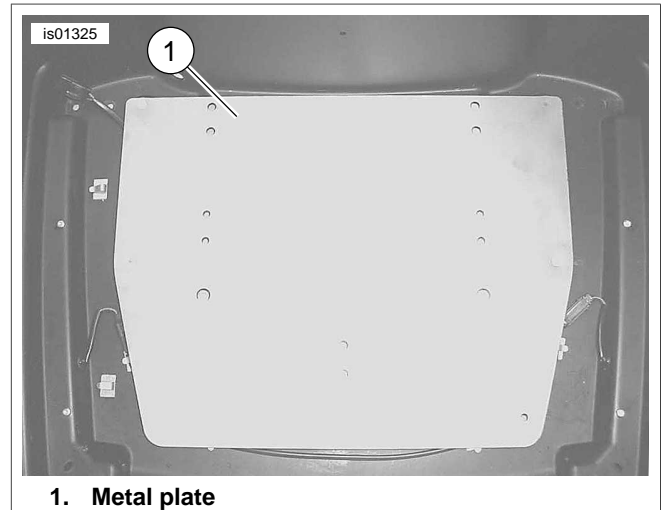

Figure 1. Metal Plate
4. See Figure 1. Remove metal plate from bottom of Tour-Pak by removing six flange nuts underneath Tour-Pak. Retain plate and nuts for later use.
- Install metal plate in bottom of Tour-Pak using six flange nuts removed earlier. Tighten nuts to 40-60 **in-lbs** (4.5-6.8 Nm). See Figure 1.